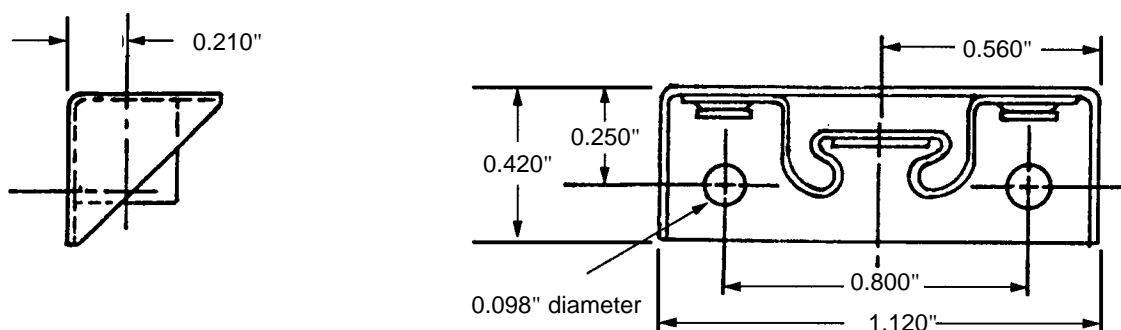
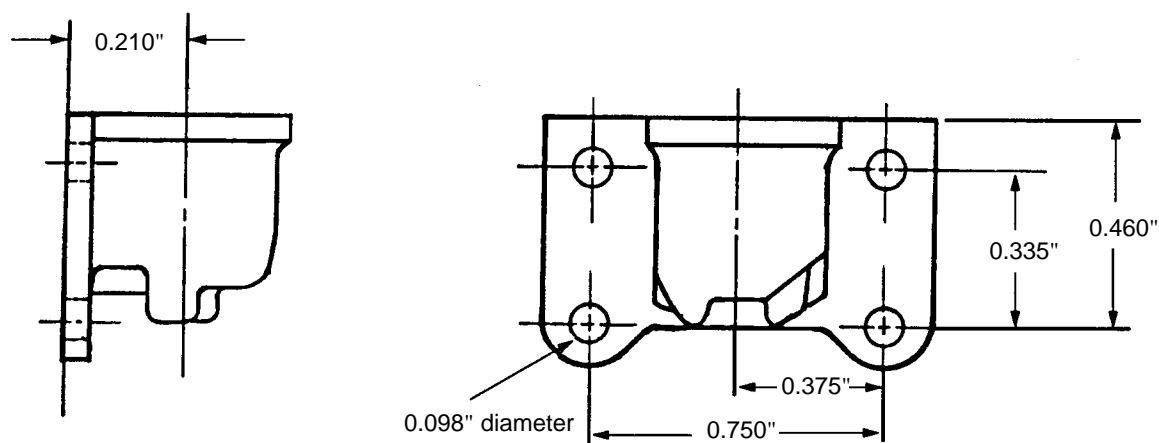

Figure 3 - 5F Series Side Mount Receptacle (5R3-1)
Figure 4 - 2600/2700 and 4002 Series Side Mount Receptacles
5.2.4 Prepare parts for installation of receptacles for 5F, 2600/2700 and 4002 series fasteners as follows (see Figure 3 and Figure 4):
2. The 5R3-1 is a side mounted receptacle. Refer to Figure 3 and the engineering drawing for installation instructions.
3. The 26R1-1, 212-12B-R, 244-16B-R, B0209037-001 and B0209057-001 receptacles are side mounted receptacles. Refer to Figure 4 and the engineering drawing for installation instructions.